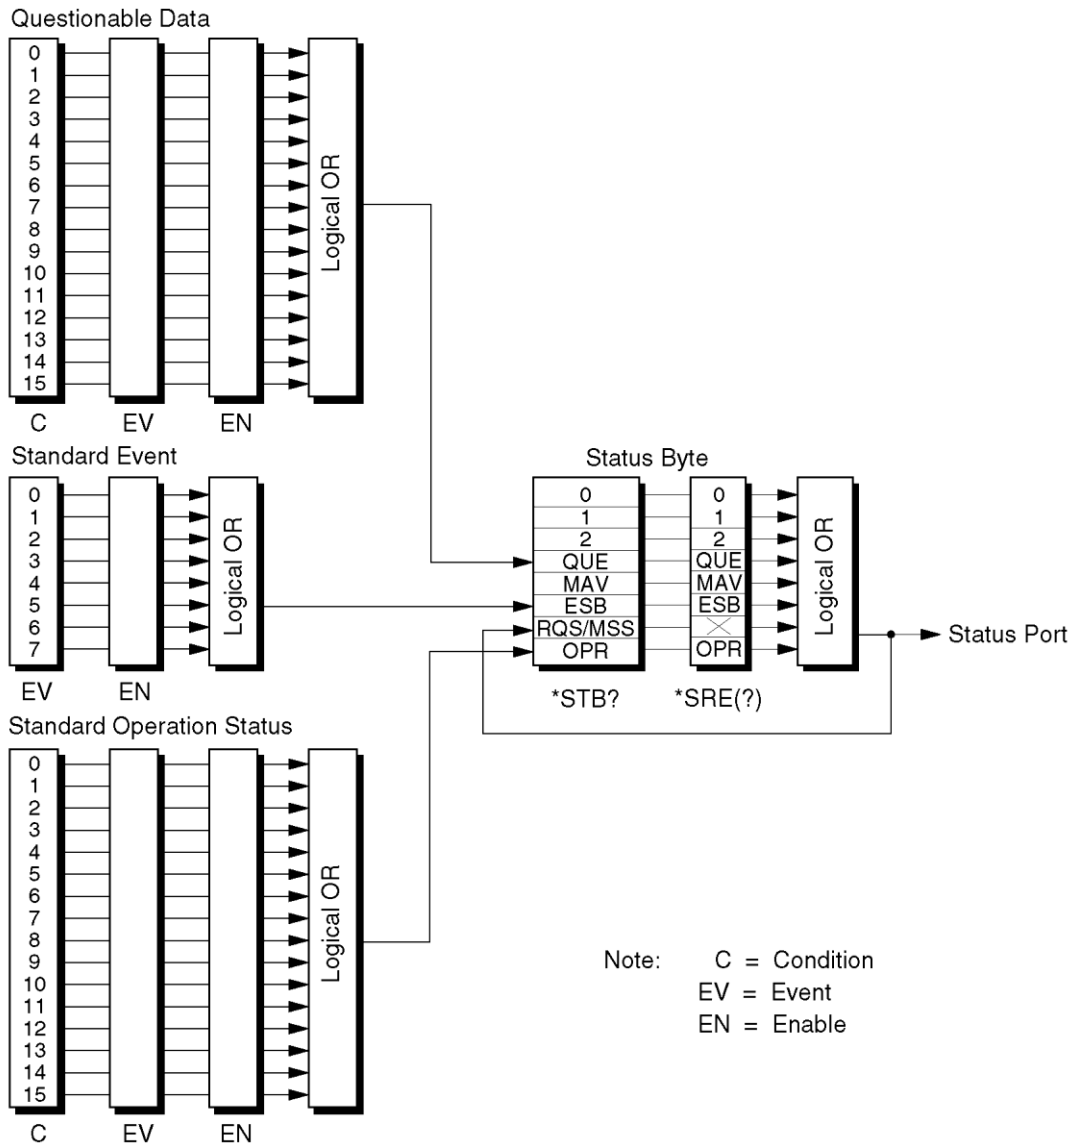

Figure 5-1. Status System Registers
The STATus commands allow you to examine the status of the instrument by monitoring the Operation Status register and the Questionable Data register. Figure 5-1 shows all of the instrument’s status registers.
The Operation Status register group consists of a condition (C) register, an event (EV) register, and an enable (EN) register as shown in Figure 5-1. The commands in the STATus:OPERation subsystem control and monitor these registers.
The Questionable Data Register group consists of a condition register, an event register, and an enable register as shown in Figure 5-1. The commands in the STATus:QUEStionable subsystem control and monitor these registers.